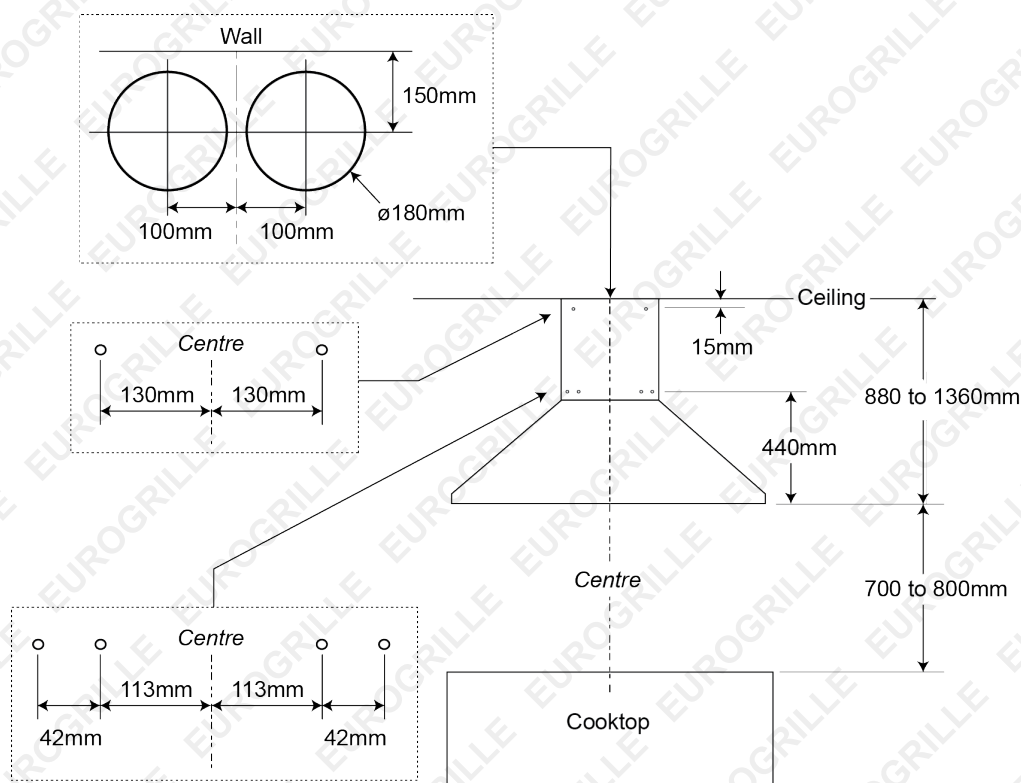

Figure 1
1. Refer to *Figure 1*. Using a pencil or other erasable marker, lightly mark out the vertical centre line of where the range hood is to be installed – this is generally central to the cooktop. Then, mark a horizontal line that is to be where the bottom of the range hood will be. Ensure that the line is level.
6. Refer to *Figure 1*. Make 2 180mm diameter holes for the vent pipes in the ceiling at approximately 150mm out from the wall and 100mm either side of the range hood centre-line. The hole positions are not critical as long as they will be fully shrouded by the flue (flue dimensions are approximately 420mm wide and 300mm deep). The vent holes can also be made in the wall instead of the ceiling.